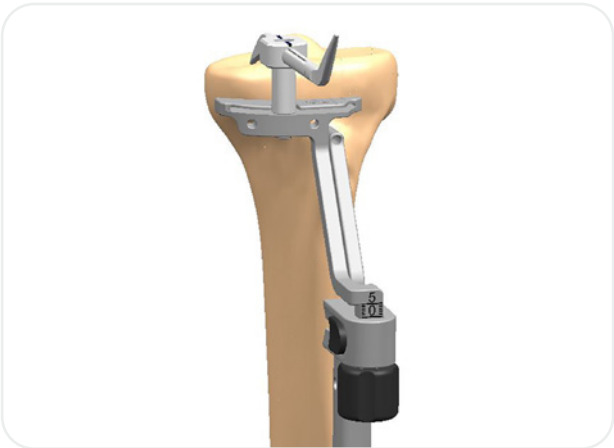

Figure 92
- 3. Insert the 2 and 10mm Pegged Tibial Stylus into the hole of the Cutting Guide (**Figure 92**).